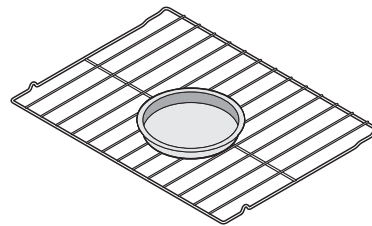

Figure 25: Single rack baking for convenience foods
- Place the food as shown in Figure 25.